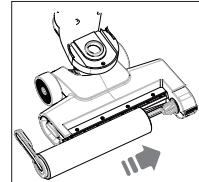

Fig. 16 – Inserting the microfibre roller
- ▶ Place the microfibre roller on the roller holder with the right-hand side first. Turn the locking tab so that you can engage the locking tab in the recess in the cleaning foot (**see Fig. 16**).